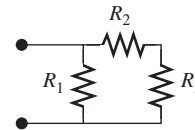

FIGURE P3.2 Circuit for Problem 3.2.
3.2 (B) Identify which resistors are in parallel and which are in series in Figure P3.2.